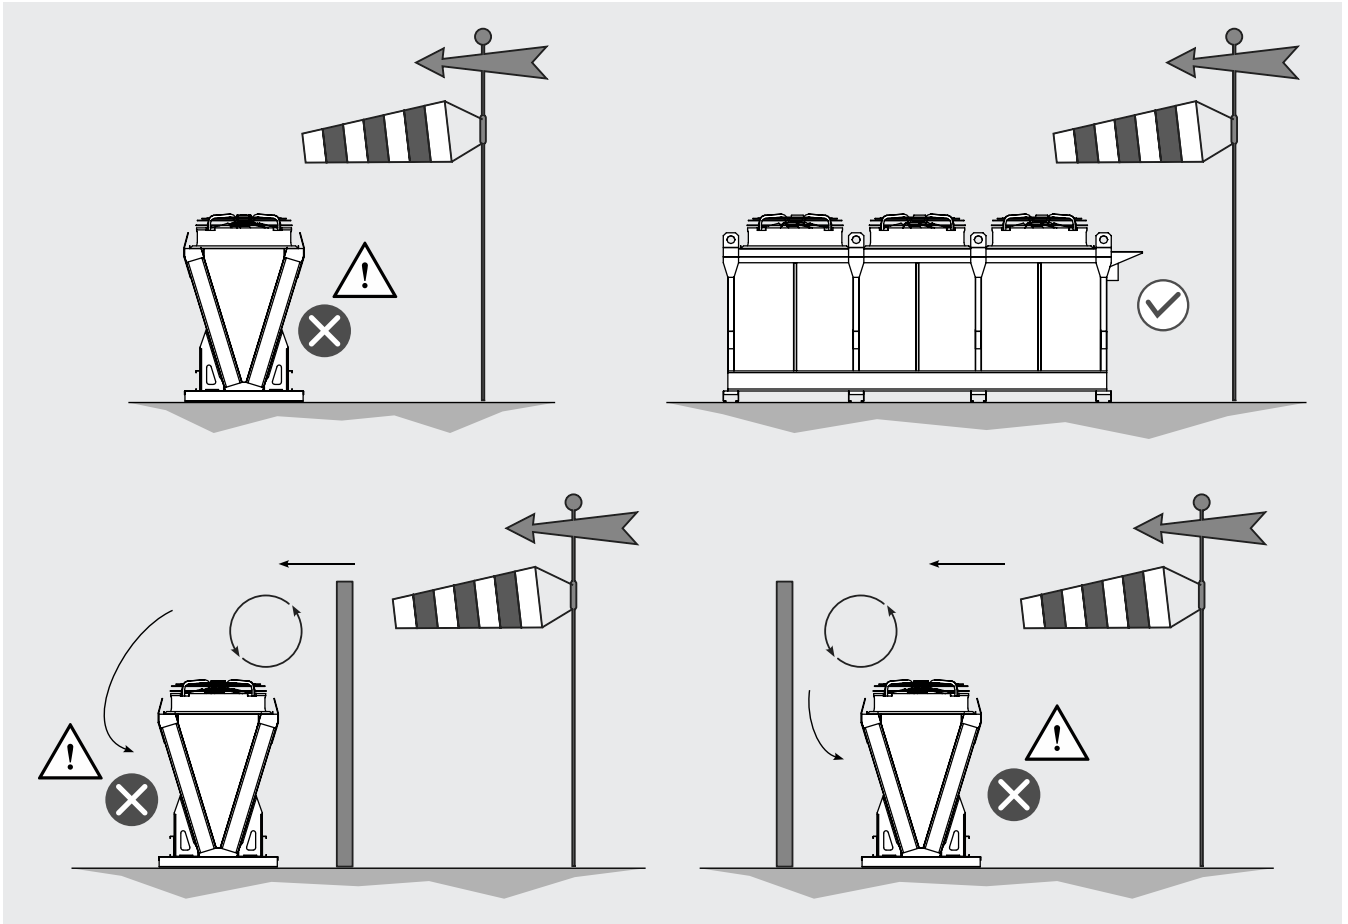

Figure 4
- 4.5 Crosswind currents, both in the presence and absence of obstacles, can lead to air recirculation phenomena with decay of model performance. See Figure 4.